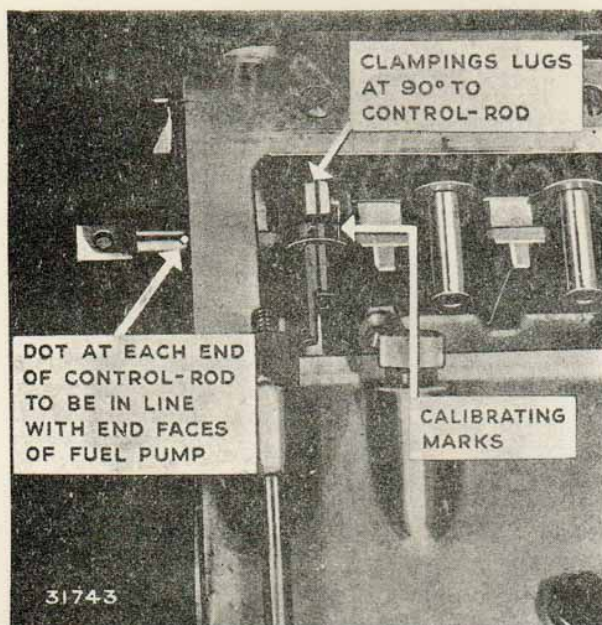

FIG. 31. SETTING CONTROL ROD
control rod should be set so that it is in line with the outer face of the pump body (Fig.31).
6. With the control rod in the central position, quadrants should be meshed so that their clamping lugs are at 90° to the control rod and in line with the barrel locking screws (Fig.31).